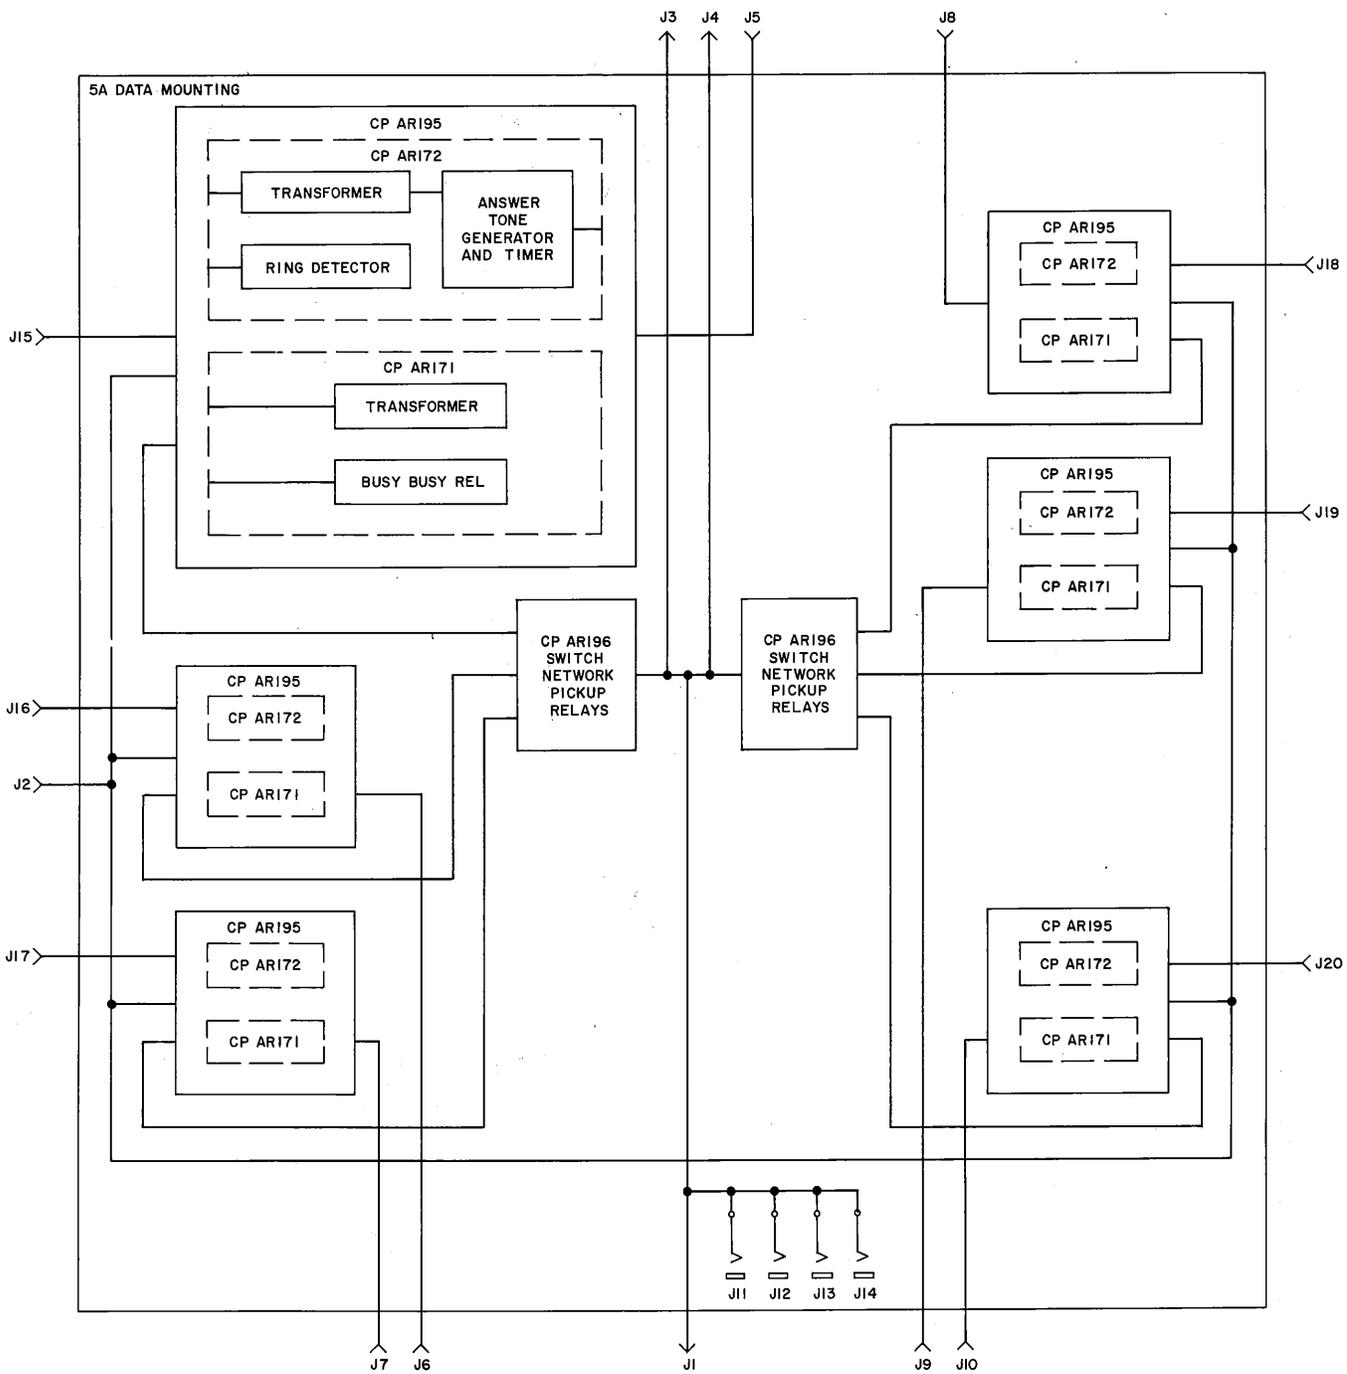

Fig. 3 — 5A Type Data Mounting, Block Diagram
3.04 Figure 3 is a block diagram of the 5A Data Mounting. The diagram shows the units that make up a 5A mounting and the relationship of these units.